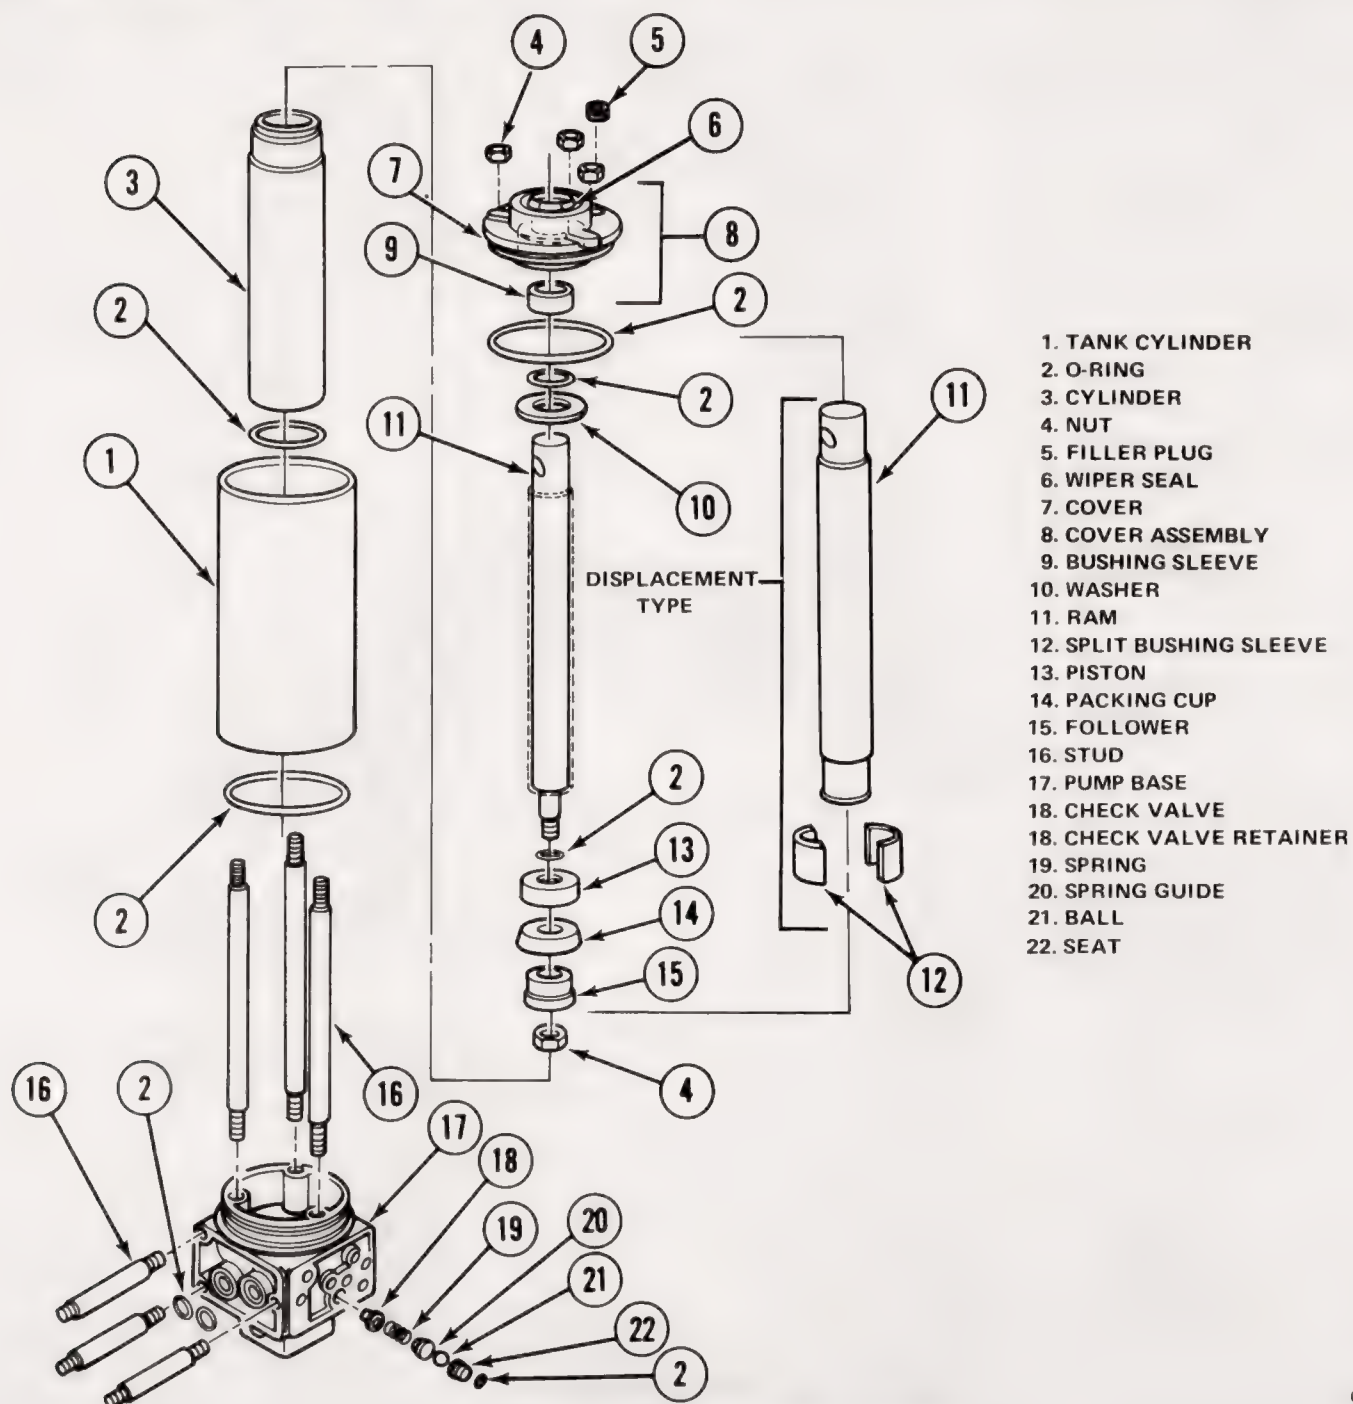

Fig. 1-44 Cover Assembly, Tank, Ram, and Cylinder
(3) Remove capscrews and separate valve assembly from tank, ram, and pump assembly.
(4) Remove locknuts from cover assembly (fig. 1-44).
(5) Inspect cover assembly for cracks or damage to casting.
(6) Inspect wiper seal pressed in cover for cuts and nicks on lip.
Before assembly, be sure all components and subassemblies are clean and void of dirt and other foreign material. Use new seals during assembly. Apply a good quality sealing compound (Permatex Form-A-Gasket, No. 1, or equivalent) to all joints that do not have an O-ring (fig. 1-44 and 1-45).
(1) Position pump on base with new O-rings and secure with locknuts (fig. 1-44).
(1) Assemble check valve retainer, spring, spring guide, ball, seat, and O-ring into base (fig. 1-44).
fill reservoir with oil to 1 inch below the bottom of cover (approximately 28 oz.). Tighten filler plug (fig. 1-44).